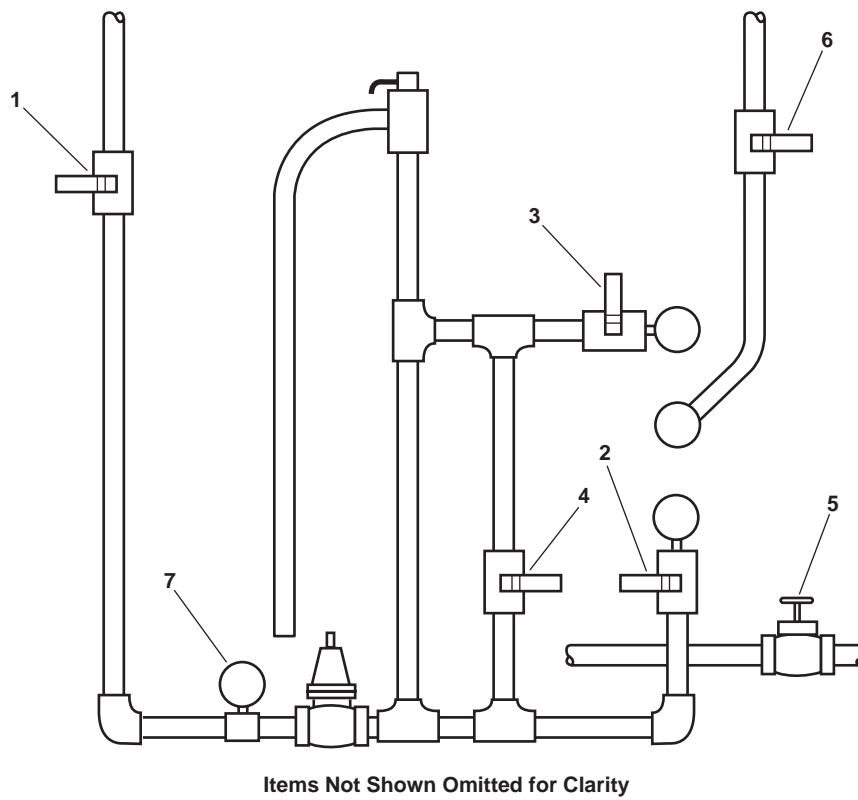

Figure 8. ROWPU System as Viewed from Starboard Side
9. CLOSE RO-V-1 (figure 8, item 1), main sea water supply.
- a. RO-V-2 (figure 8, item 2), media filter supply.
- b. RO-V-3 (figure 8, item 3), media filter discharge.
- e. RO-V-4 (figure 8, item 4), media filter bypass.
- g. RO-V-11 (figure 8, item 5), media filter drain.
- a. RO-V-10 (figure 8, item 6), media filter backflush valve.
- b. RO-V-1 (figure 8, item 1), main sea water supply.
3. Verify that RO-PG-1 (figure 8, item 7), general service pressure, indicates a minimum of 30 PSI (2.4 bar).
5. Slowly OPEN RO-V-2 (figure 8, item 2), media filter supply, to backwash the media filter.
9. CLOSE RO-V-2 (figure 8, item 2), media filter supply.
11. Slowly OPEN RO-V-2 (figure 8, item 2), media filter supply.
13. CLOSE RO-V-2 (figure 8, item 2), media filter supply.